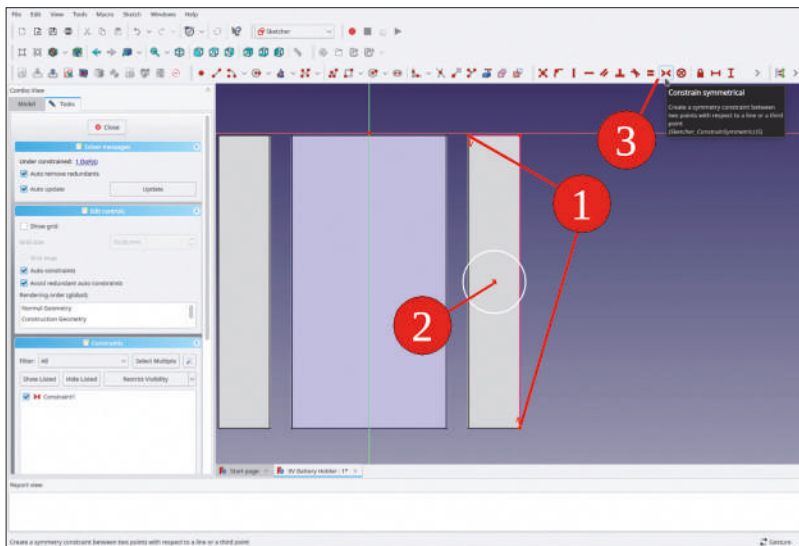

Figure 5-16
20. To place the circle in the center of the flange, mark two diagonally placed corner points of the new construction lines, and then the center of the circle. Clicking the 'Constrain symmetrical' tool button brings the circle to the center of the flange (Figure 5-16).